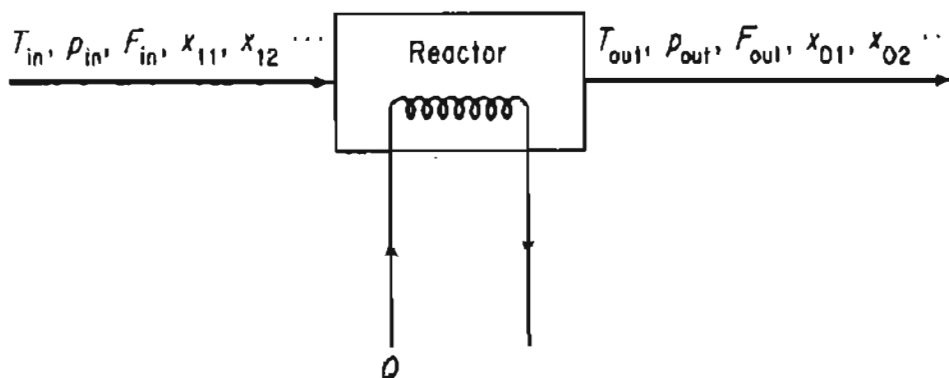

Figure P30.6
- 30.6** In a reactor model, rather than assume that the components exit from the reactor at equilibrium, an engineer will specify the r independent reactions that occur in the reactor, and the extent of each reaction, ξ_i . The reactor model must also provide for heating or cooling. How many degrees of freedom are associated with such a reactor model? See Figure P30.6.